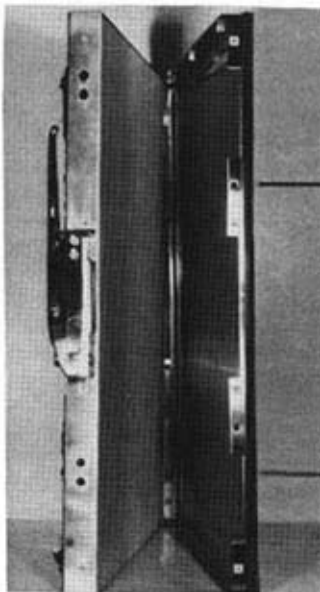

FIG. 15
3. Remove the eight (8) screws (CC16 models), 10 screws (CG15 and CB21 models), or 14 screws (CB53 models) securing inner door panel to outer door panel and remove insulation. Save screws and insulation for reuse (See Figure 15).